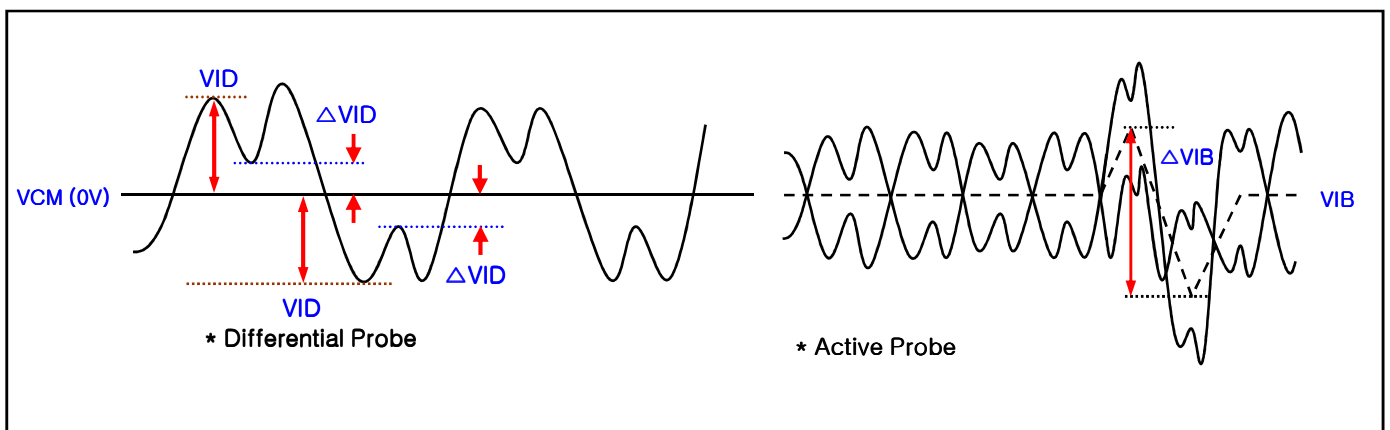

FIG. 2 Description of VID, Δ VIB, Δ VID
5. In case of mini-LVDS signal spec, refer to Fig 2 for the more detail.